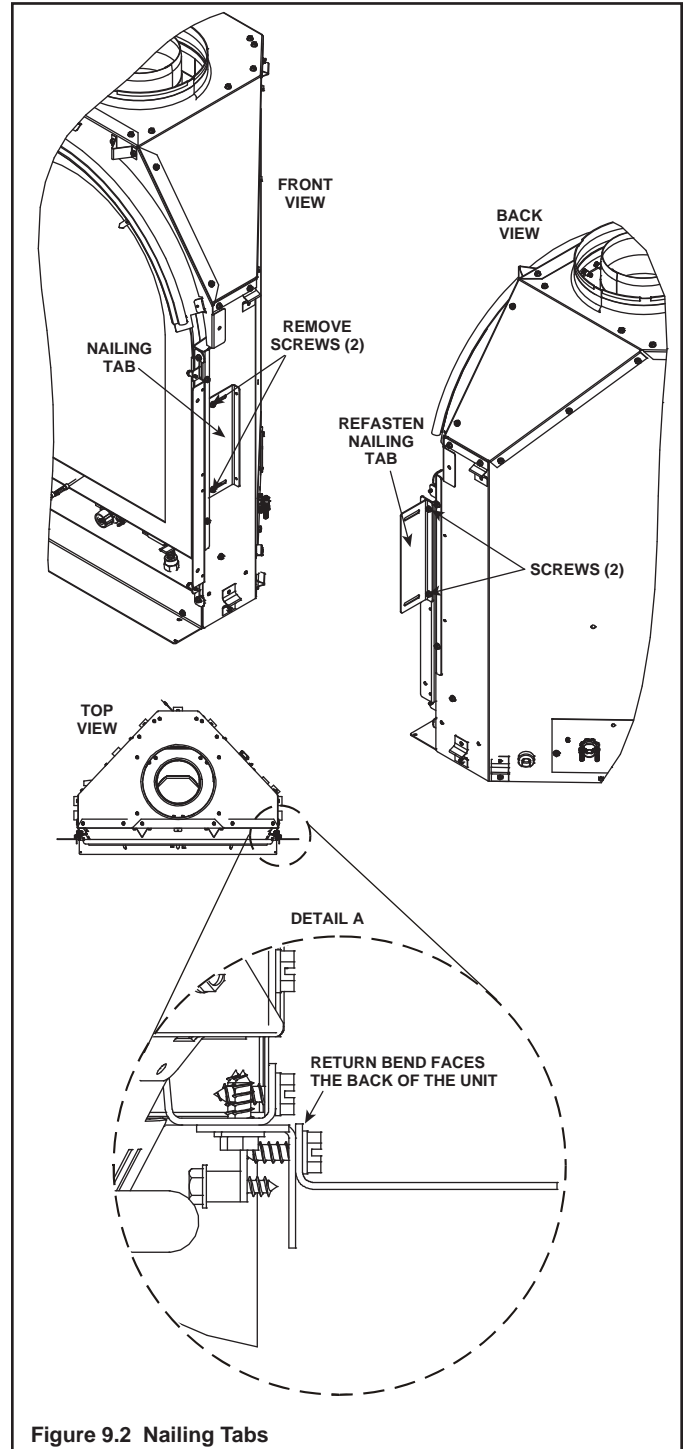

Figure 9.2 Nailing Tabs
- Remove two side screws from each nailing tab. See Figure 9.2. Refasten nailing tabs to the appliance. Note: Return bend on nailing tab faces back of unit.